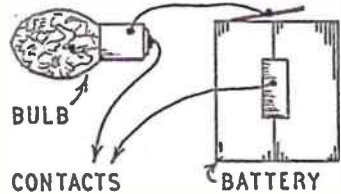

Fig. 1—Simplest firing circuit
The simplest circuit is shown in Fig. 1, and this is used in many flashguns. The battery is of the ordinary dry type used in handlamps or torches, and can be 3 V, 4½ V or 6 V. When the circuit is
Should the camera have no flash contacts, the bulb may be fired separately. To do this, a simple push switch can be wired to the two leads in Fig. 1. The camera shutter is then set to (B) for a